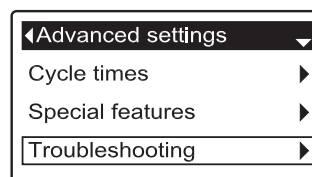

FIG. 80
1. From any of the rolling status screens, press the SELECT (O) button to display the **Main menu**.
3. Press the SELECT (O) button to display the Advanced settings menu (See Figure 80).